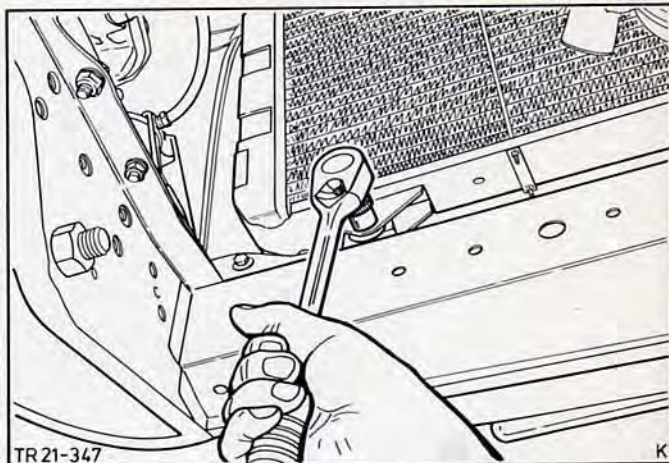

Fig.23. Secure bottom end of radiator.
34. Secure bottom end of radiator in the mountings on the crossmember, Fig.23, and screw connecting pipe running to the overflow tank to the bodywork.